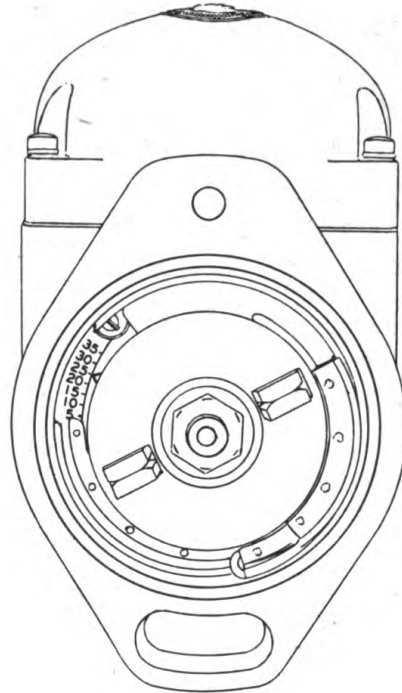

Fig. 48
15. If the magneto is O.K. when tested as in paragraph 1, then run it at full speed and if spark is till O. K., it is then checked for timing on the synchroscope. The impulse should trip the number of degrees at which the arrow on stop pin plate indicates (this is located back of impulse as shown in Fig. 48.)
43. Place impulse stop pin plate in frame, placing arrow to number which will give desired impulse lag angle as shown in Fig. 48. Then screw down tight.